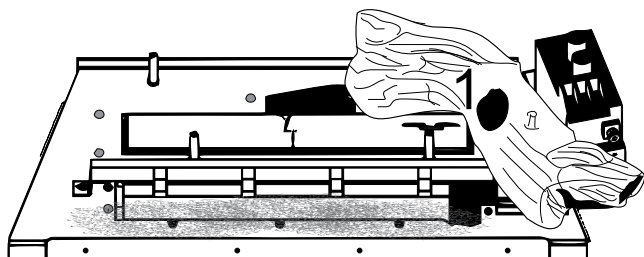

Figure 5.2 - Log #1 Placement
2. Place log #1 on the right-hand side of the burner assembly by positioning the pin locator hole on the bottom of the log over the pin on the right-hand side of the burner and by rotating the log clockwise toward the back to contact the rear bend on the sheet metal of the burner assembly. When the log is in place, make sure that the notch on the bottom of the log match up with the bracket on the grate. See Figure 5.2.